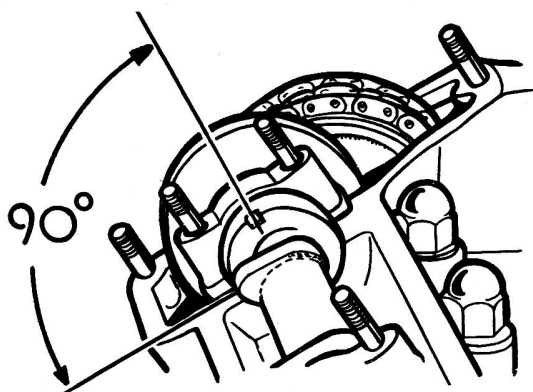

Fig.1.42. Position of slot for assembly of camshaft
- 10 Repeat the foregoing to check the valve clearances for the other set of valves. When satisfied that the clearances are correct, check the security of the nuts and turn the camshaft so that the square slot in the shaft at the rear of the front bearing is at 90° to the camshaft cover face (refer to Fig.1.42).